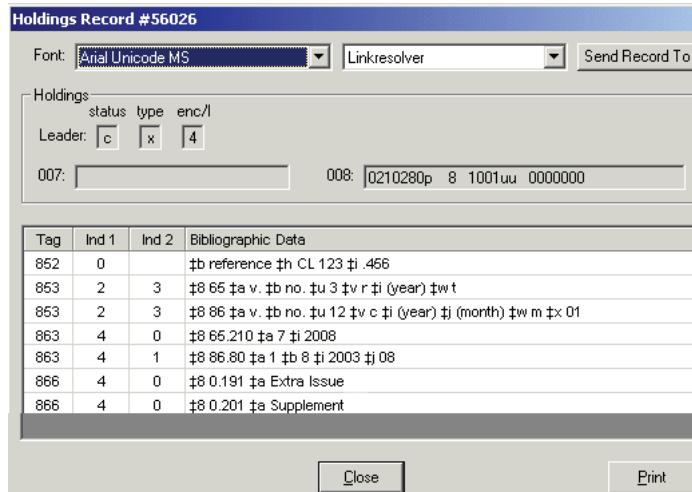

Figure 9-33. MARC Holdings Record
*Result: The associated MARC holdings record is shown in Figure 9-33. Close this dialog box by clicking the **Close** button.*